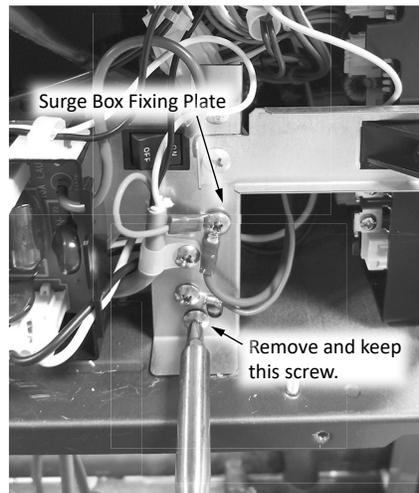

Figure 37: Surge box fixing plate removal.
- 5 Remove the screw securing the surge box fixing plate to the base of the water heater housing. See Figure 37.
- 13 Return the computer board to its original location in the water heater housing. Reinstall and secure the surge box fixing plate with the screw removed earlier. Restore the wiring to its original location. See See Figure 37 on page 49.